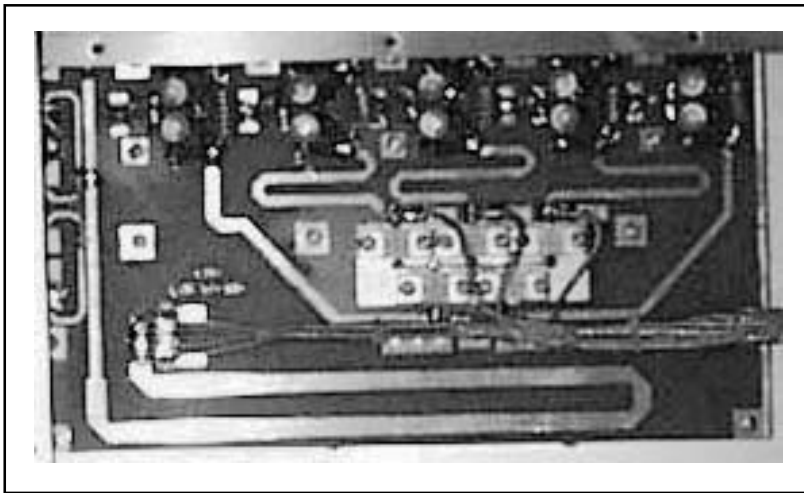

Figure 3
- 5) Regulate all the variable capacitors to their middle position (Figure 3).